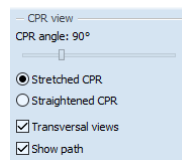

Figure 304 – CPR view settings
- To change the position of the transversal views along the curved plane, drag and drop yellow intersection line belonging to the central (B) transversal view.
- To show/hide CPR path, check/uncheck the **Show path** check box in the **CPR view** part in the **CPR** tool (see Figure 304).
- To change the current CPR projection, click **Stretched CPR** or **Straightened CPR** radio button in the **CPR view** part in the **CPR** tool (see Figure 304).
Transversal views can be hidden anytime by unchecking **Transversal views** check box in the in the **CPR view** part in the **CPR** tool (Figure 304).